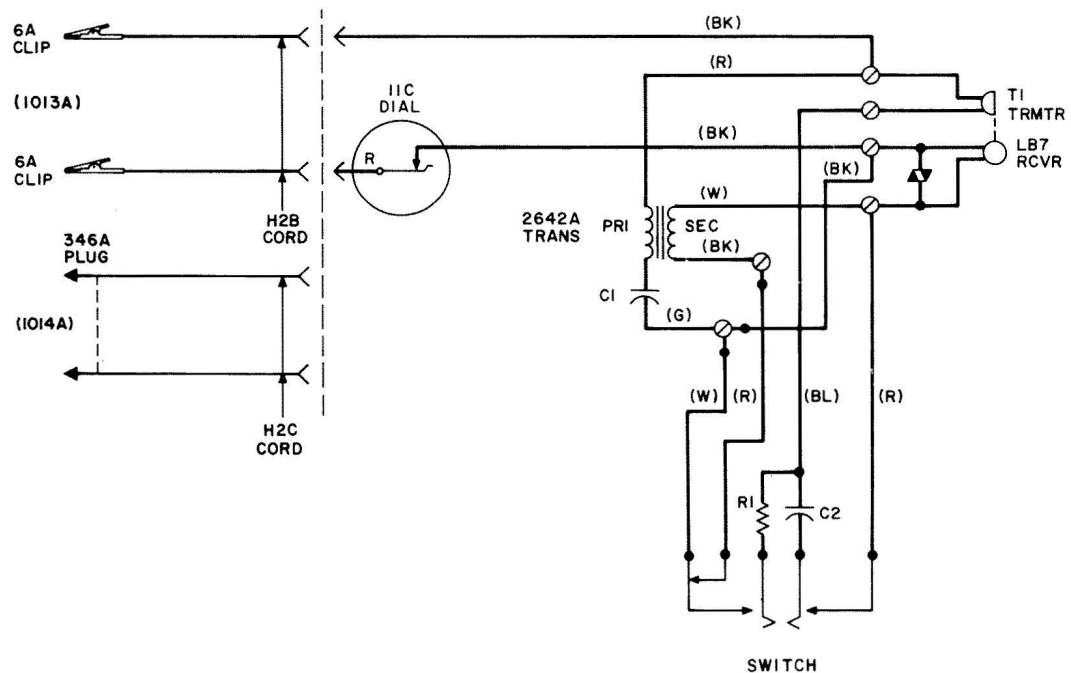

Fig. 5—Schematic of 1013A and 1014A Handsets (Mfr Disc.)
3.01 A schematic of the sets is shown in Fig. 5 and 6.